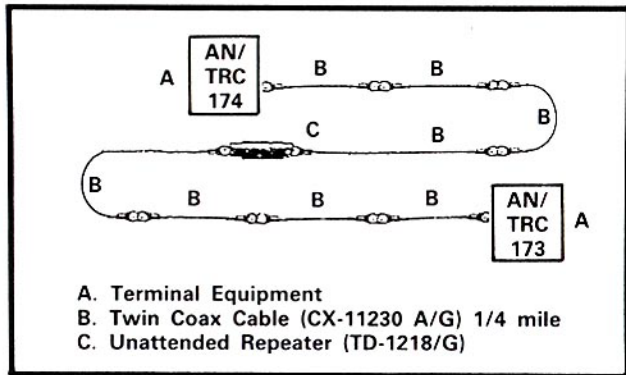

FIGURE 1 Low Speed System
1. Use TD-1218/G at each 1 mile distance. (See fig. 1)